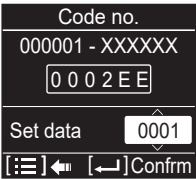

Fig. 4-12-2-9
(6) If the  button is pressed under the display Step (3) the following display (Detailed setting-end screen) (Fig. 4-12-2-10) appears.